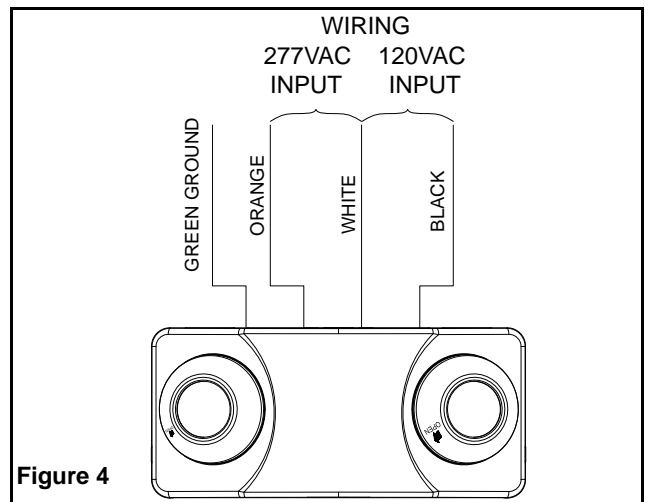

Figure 4
4. Make the proper connections (see figure 4):
7. Install the batteries to the back plate and connect the battery wires as shown in figure 4.